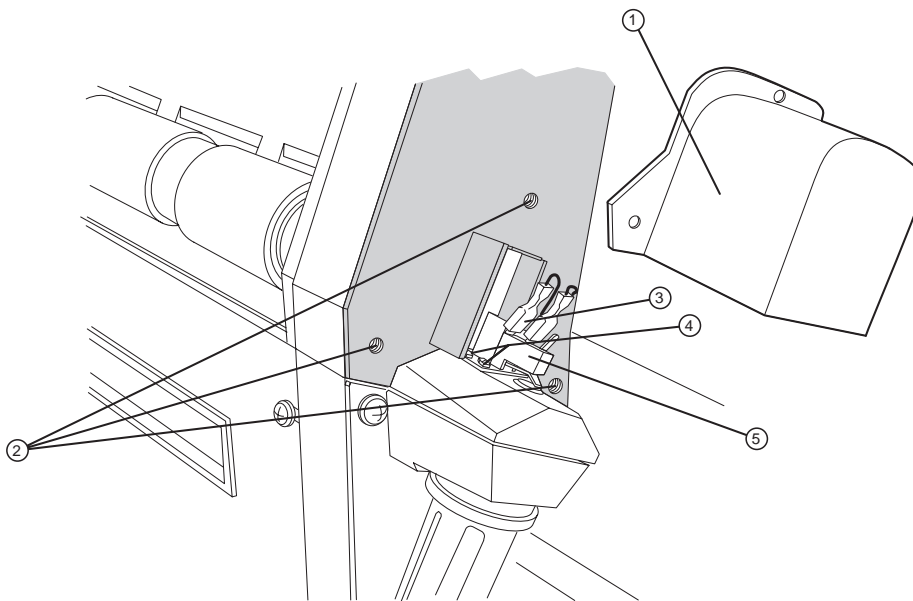

Figure 4-4 Activator switch.
1. Using a phillips head screwdriver, remove the three (3) cover screws. Refer to Figure 4-4.
2. Disconnect the switch connectors. Refer to Figure 4-4.
3. Using a flathead screwdriver, remove the two switch mounting screws. Refer to Figure 4-4.